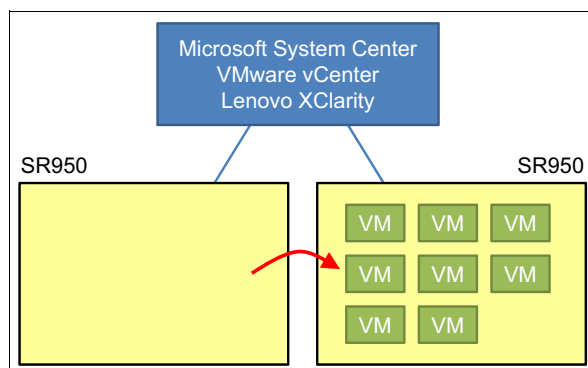

Figure 7-24 Workload resumes on a different server
2. The server is emptied and the workload resumes on a different server, as shown in Figure 7-24.